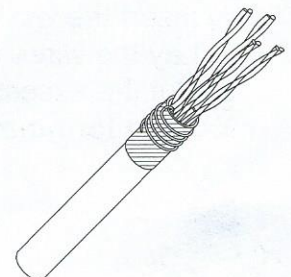

Fig.4
4) Pull the foil shield back from the fourth pair over the jacket and wrap the drain wire around the shield. Ensure cable foil's conductive surface is facing out (Fig. 4)